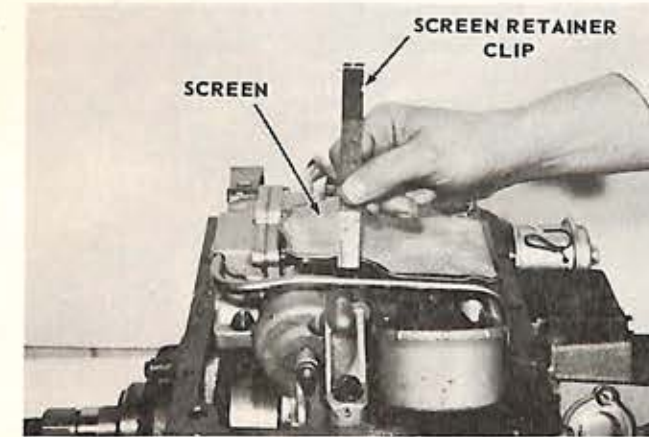
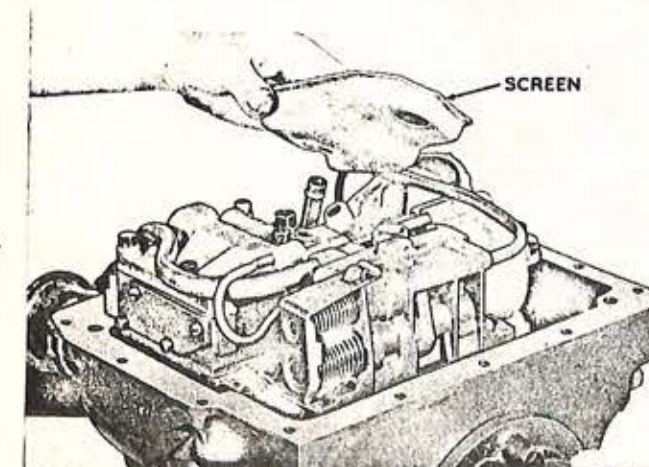

Fig. 20
Fig. 21
3. Remove the screen retaining clip, (Fig. 20) then lift the screen off the forward tube and off the rear tube (Fig. 21).